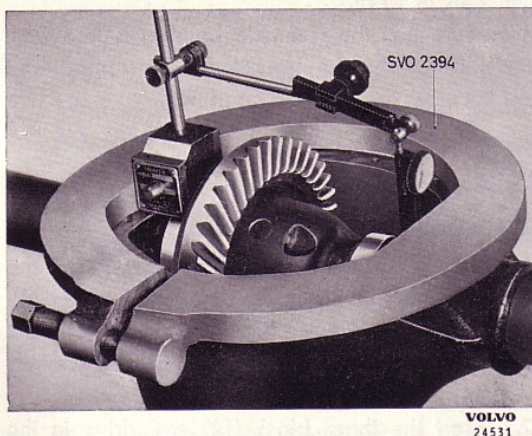

Fig. 12. Expanding the drive pinion carrier.
7. Fit tool SVO 2394 in the holes in the drive pinion carrier as shown in Fig. 12. Fit an indicator so that the expansion of the drive pinion carrier can be read off. Tighten the tensioning screw so that the carrier is expanded not more than 0.3 mm (0.012"). Remove the indicator. Lift out the differential carrier with crown wheel.
11. Fit tool SVO 2394, see Fig. 12, and an indicator on the drive pinion carrier. Tighten the tensioning screw so that the drive pinion carrier is expanded by not more than  $0.012''$  ( $0.3 \text{ mm}$ ). Remove the indicator. Fit in the differential with bearings. Then remove the tool SVO 2394.